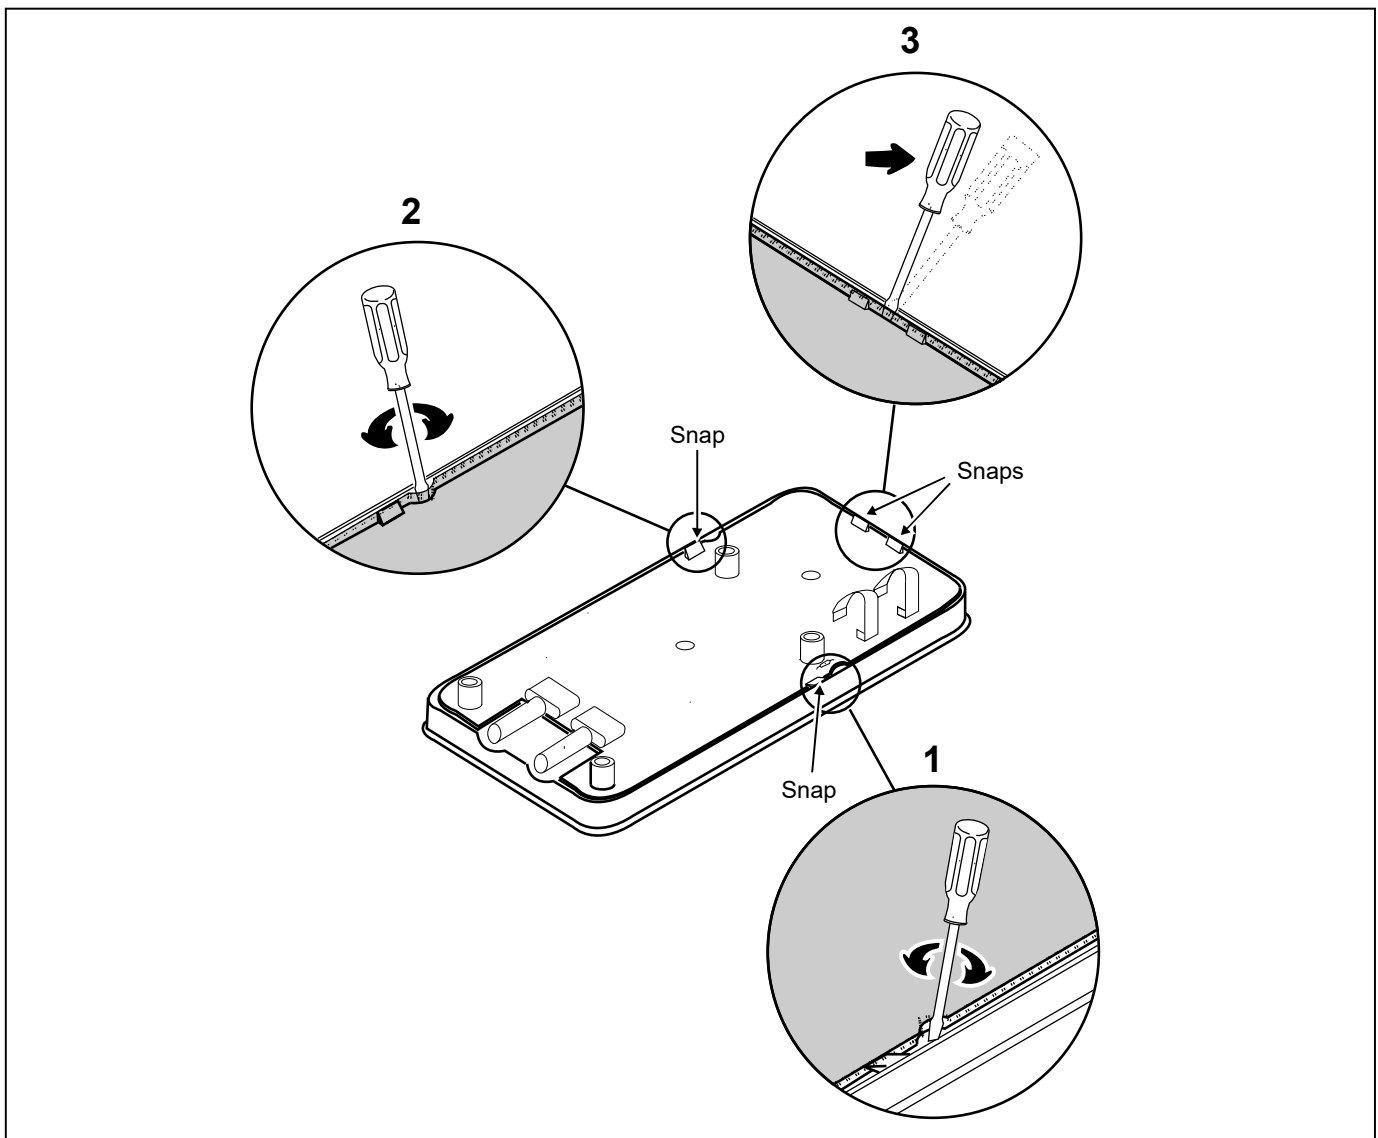

Figure 3. Removing and Reinserting the Printed Circuit Assembly (PCA)
7. Referring to Figure 3, insert a small, flat-blade screwdriver between the edge of the case top and the PCA. Gently unsnap the case top from the PCA.